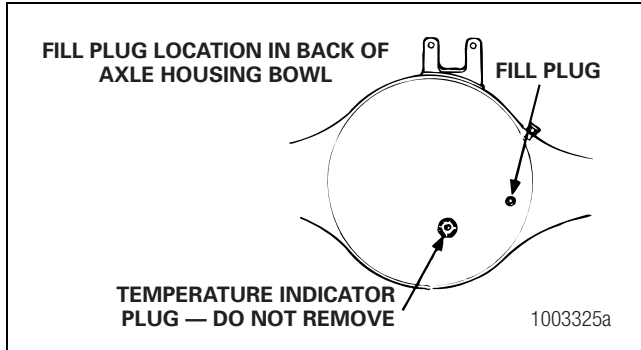
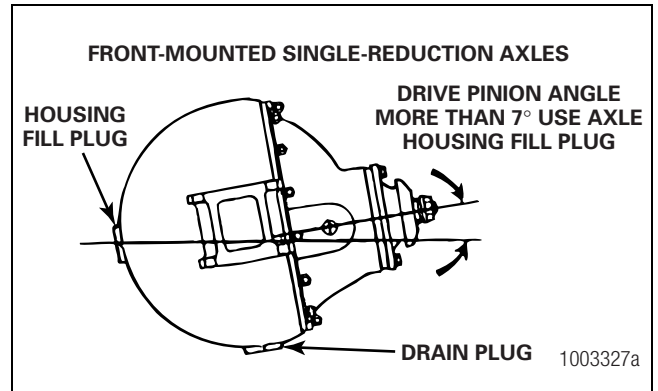
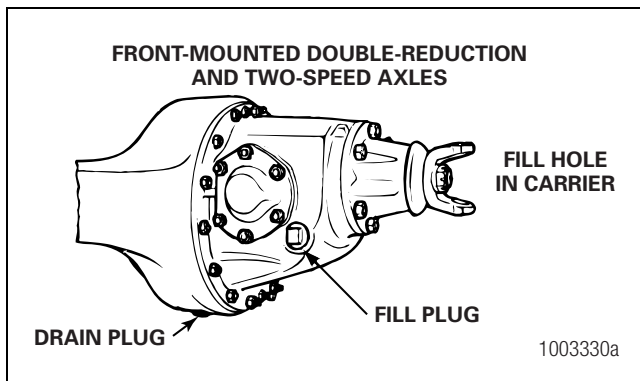
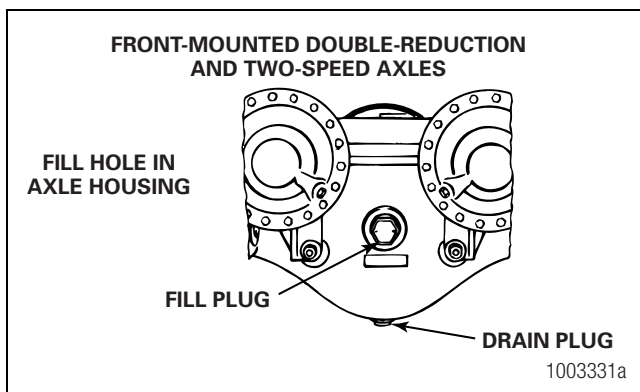

Figure 8.11
Figure 8.13
Figure 8.16
Figure 8.17
2. If the drive pin angle is 7 degrees or less, use the fill plug in the differential carrier. Figure 8.11 and Figure 8.16.
3. If the drive pin angle is more than 7 degrees, use the fill plug in the axle housing bowl. Figure 8.13 through Figure 8.17.
2. Clean the area around the fill plug. Remove the fill plug from the differential carrier or the axle housing bowl, depending on the axle. Do not remove the temperature indicator plug. Figure 8.11 through Figure 8.17.